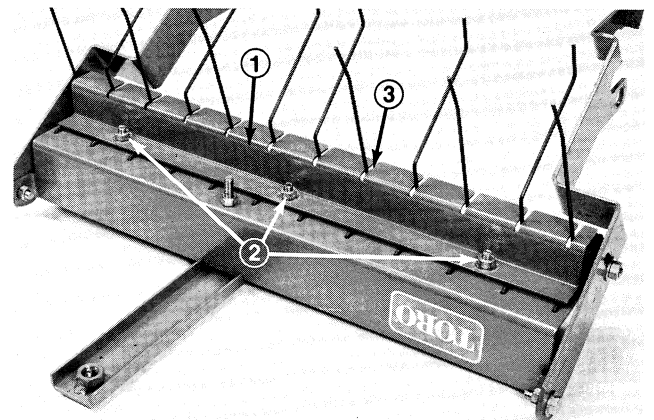

Figure 4
5. Mount spring guide bracket to main frame with (3) carriage bolts, washers and locknuts, positioning spring legs in slots in bracket (Fig. 4). Position washers between spring guide bracket and main frame.